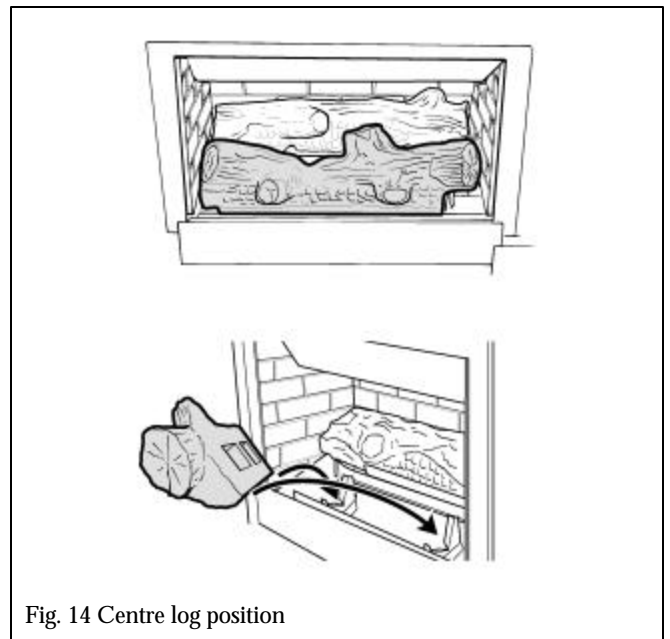

Fig. 14 Centre log position
- 12.4** Place the center log on the retaining cradles between the rear and front burner tubes. Center the log so that the gap to the side wall is the same at each side (see figure 14).